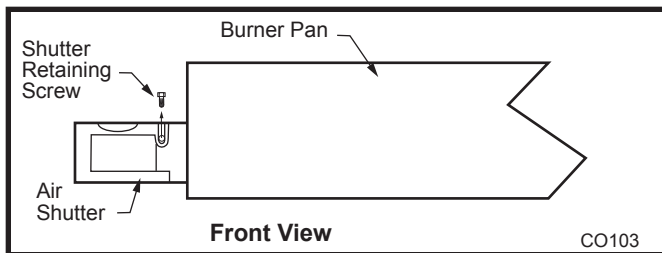

Fig. 64 Remove air shutter from burner pan.
4. Remove air shutters from burner pan by removing shutter retaining screw then air shutter. (Fig. 64)